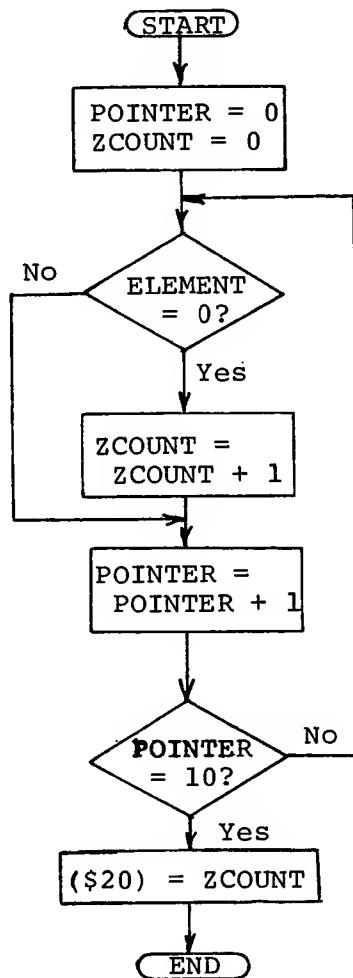

Figure 5-1. Flowchart for Zeroses-Counting Program
1. In this experiment, we will develop a program that counts the number of zeroes in memory location \$21 through \$2A, and places that count in location \$20. Figures 5-1 and 5-2 show a flowchart and a symbolic program that should do the job.